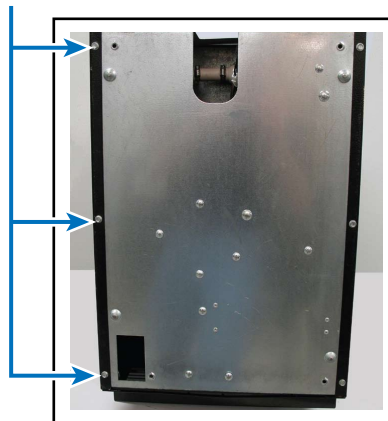

Figure 9
7. Remove the six screws that secure the baseplate to the cabinet on the bottom of the unit (see **Figure 9**).
17. Remove the six screws that secure the baseplate to the cabinet on the bottom of the unit (see **Figure 9**).
8. Gently slide mechanical out back of unit enough to gain access to condenser coil and fan shroud (see **Figure 9**).